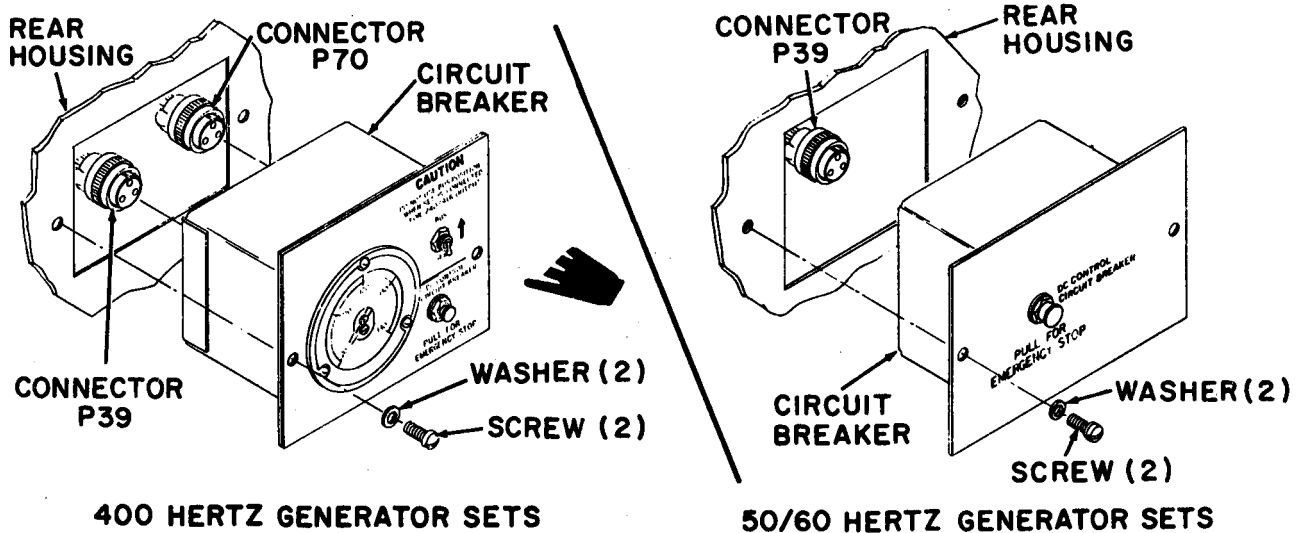

Figure 3-23. DC control circuit breaker, removal and installation
b. REMOVAL. Remove DC control circuit breaker as illustrated in figure 3-23.
d. REPLACEMENT. Replace DC control circuit breaker as illustrated in figure 3-23.